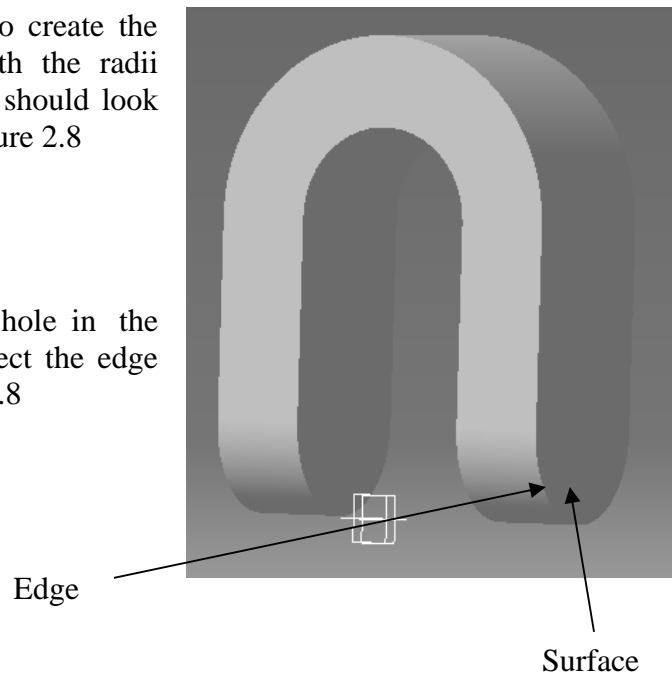

Figure 2.8
2.14 Repeat steps 2.9 thru 2.13 to create the radius on the other leg. With the radii created on both legs, the part should look similar to the one shown in figure 2.8
2.15 To put the 18mm diameter hole in the two leg of the part, multi select the edge and surface shown in figure 2.8